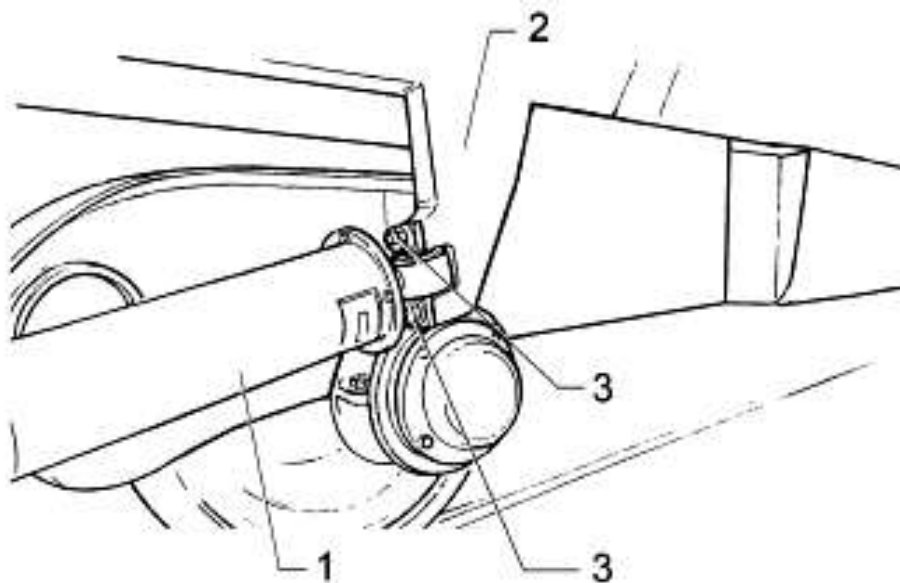

FIG. 4-16 Disconnection of the Yaw Damper
Disconnect the yaw damper (1 - FIG. 4-16) connected to the car body support(2) Extracting the fixing screws (3)